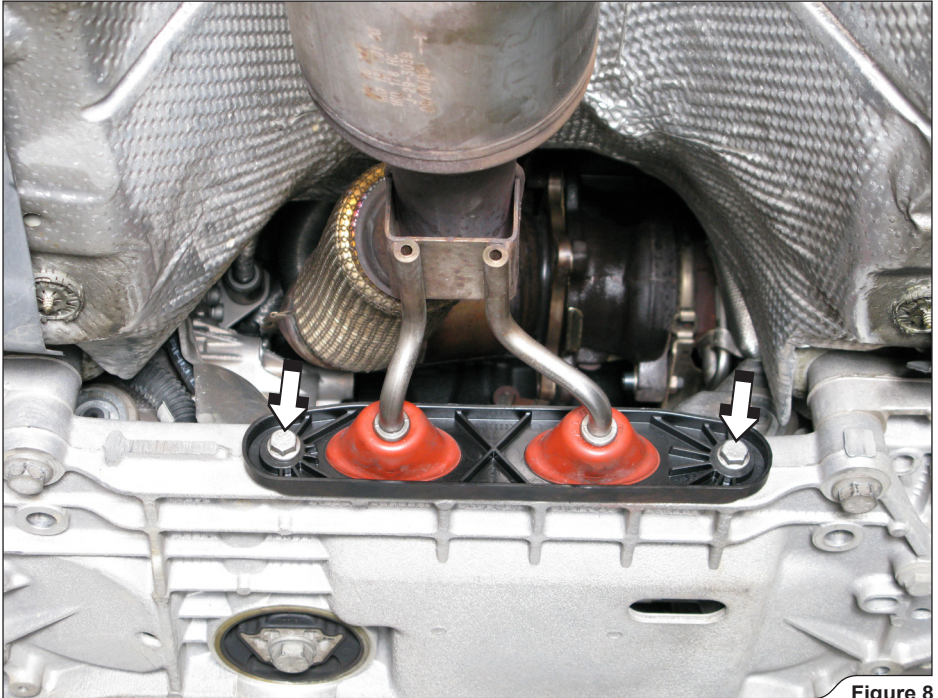

Figure 8
6. Unscrew the down pipe's bracket and lower the down pipe onto the axle support (**Figure 8, 9**).